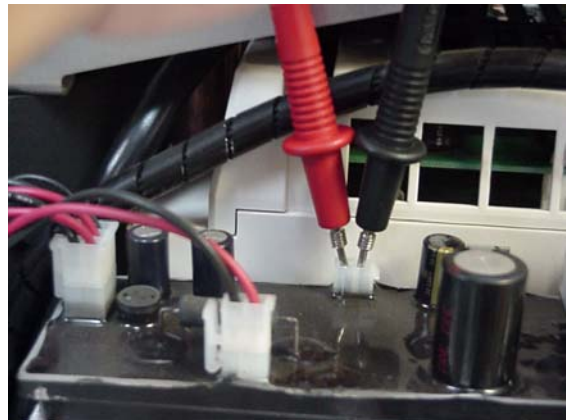

Figure 4-46 Measuring the HV DC-DC Converter Input Resistance at the AC Input
6. Place the meter probes in the 15 VAC input terminal (polarity unimportant), as shown in Figure 4-46. The meter should show a reading of $> 1.5k\Omega$, but not infinity.